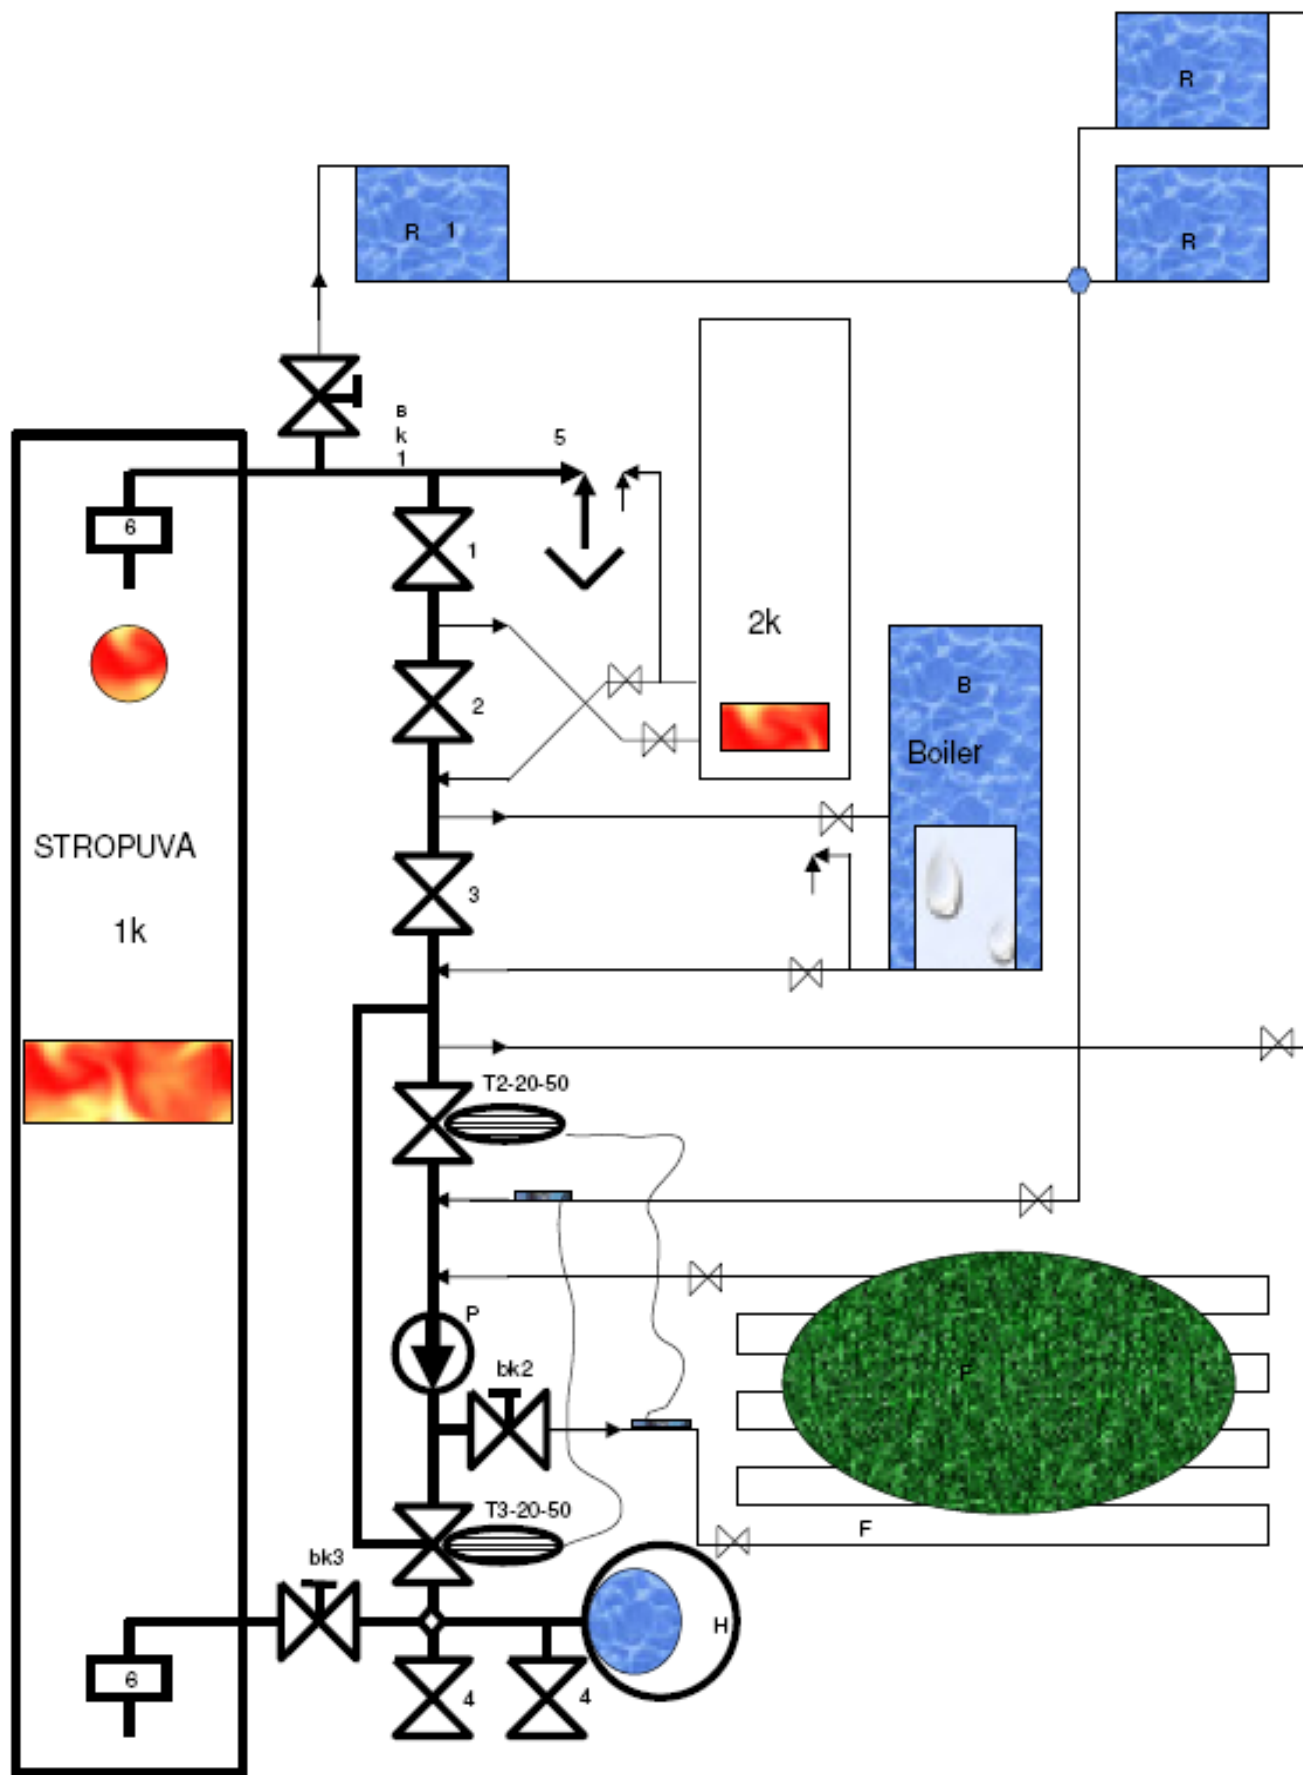

Fig. 4.2. Heating system scheme with additional boiler and floor heating.
The pump (P) pumps the water out of the heating elements and pushes it through the boiler into the heating elements (see figure 4.2.). Through balance faucet (bk 1) the heated water flows into the nearest radiator, which can operate in a self-flowing manner to protect the boiler from overheating (radiator without a thermo valve) in case the power went off.